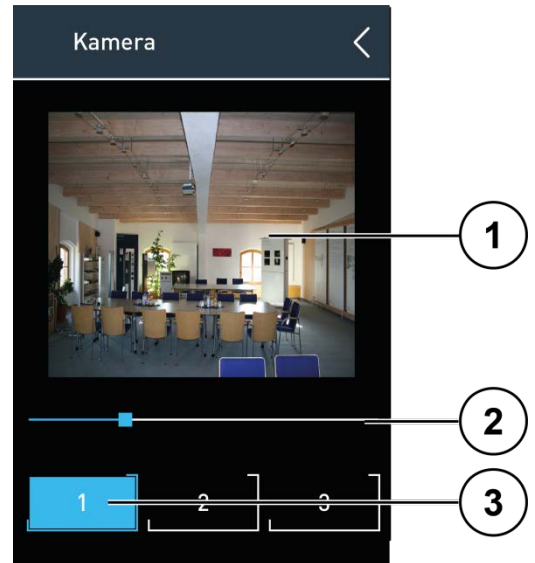

Fig. 12: camera
- In the menu *Camera* the *Live image* (1) of the camera is displayed (Fig. 12).
- ▶ Tap on a camera button (3).
- ▶ Slide the zoom controller (2) to the right to zoom into the video image resp. to the left to zoom out of the video image.
- ▶ Tap on the camera button (3) until an acknowledgement tone sounds. The coverage is stored.